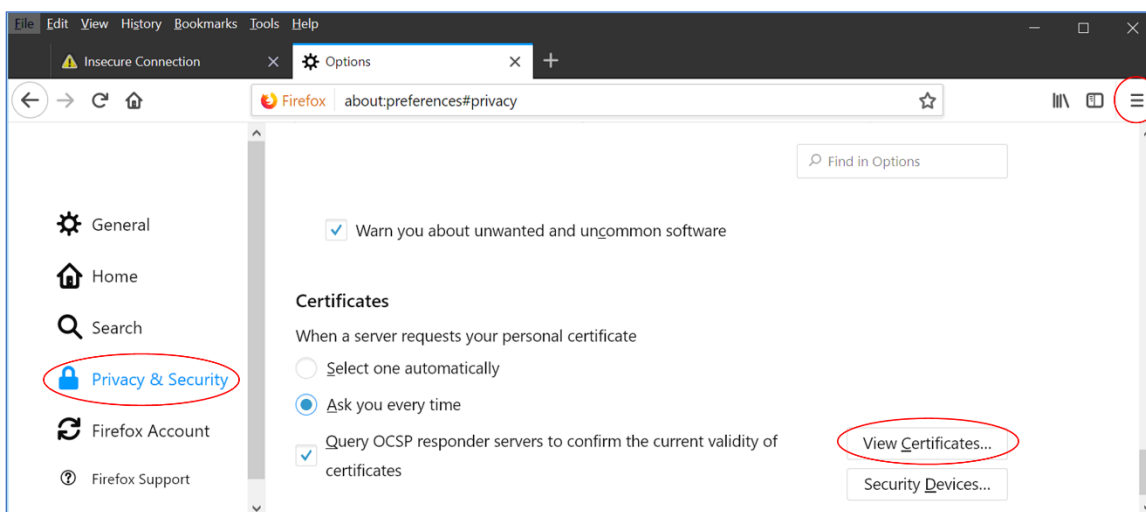

Figure 331: Firefox Options Interface
2. Select Options. The Options tab displays, as shown in Figure 331.